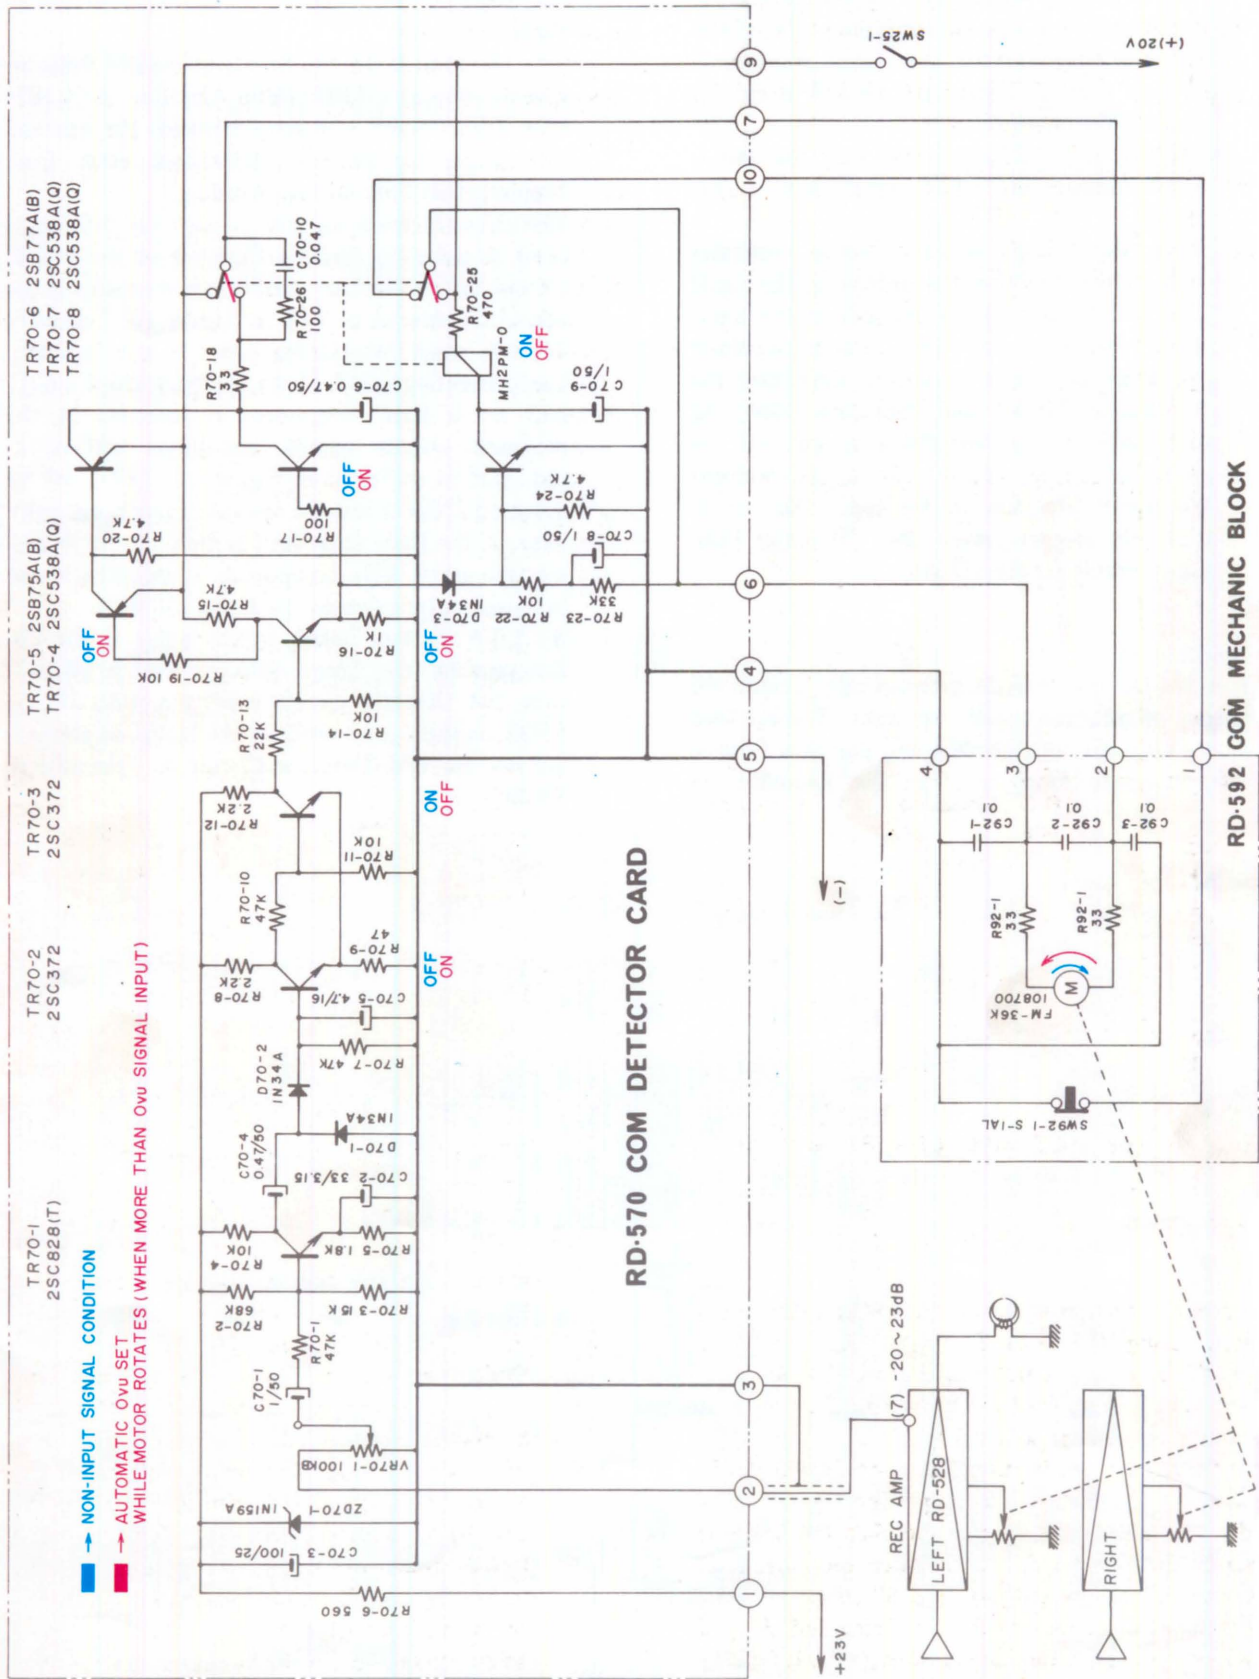

Fig. 10
a) By depressing the Set Button (SW25-1) with no input signal applied to Line Input or Microphone Jacks, current flows to the Comput-O-Matic Motor through the Relay (MH2PM-0) (a normally closed contact) and the Microswitch (SW92-1), causing the Motor to rotate in the direction indicated by the blue line in Figure 10.
As current is cut off, Bias Voltage is applied to Transistor TR70-8, through R70-23 and R70-22, actuating TR70-8. As TR70-8 is actuated ("ON") collector current flows through the Relay Coil MH2PM-0, engaging the Relay. However, when no input signal is applied, current does not flow to the Motor because Transistor TR70-7 is inoperative (OFF), as shown in Figure 10.
b) Under conditions as described above, but when input signals are applied to the Line Input or Microphone Input Jacks (for input signals level of 0 VU or greater) the function of Transistors are as shown by the red print in Figure 10. As TR70-7 is actuated, TR70-7 collector current flows through the Motor, causing the Motor to rotate in the direction indicated by the red arrow in Figure 10.
When the signal level to the Recording Amplifier is reduced to 0 VU, the conditions of the COM Detector Card Transistors are again as indicated in blue print in Figure 10, TR70-7 is cut off and the Motor stops.